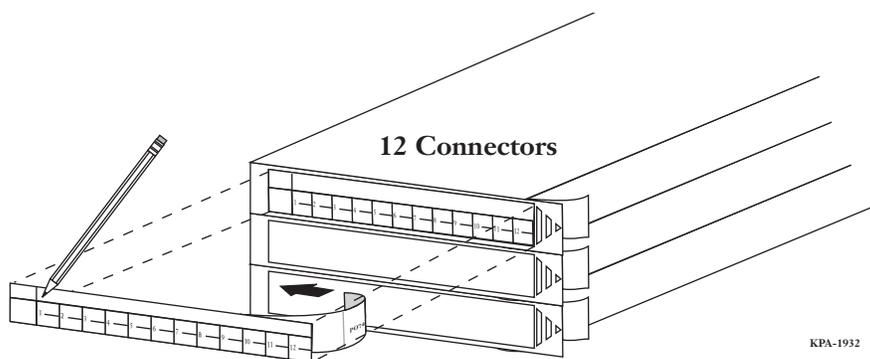

Figure 44
Step 8: Affix the designation label to the handle (Figure 44).